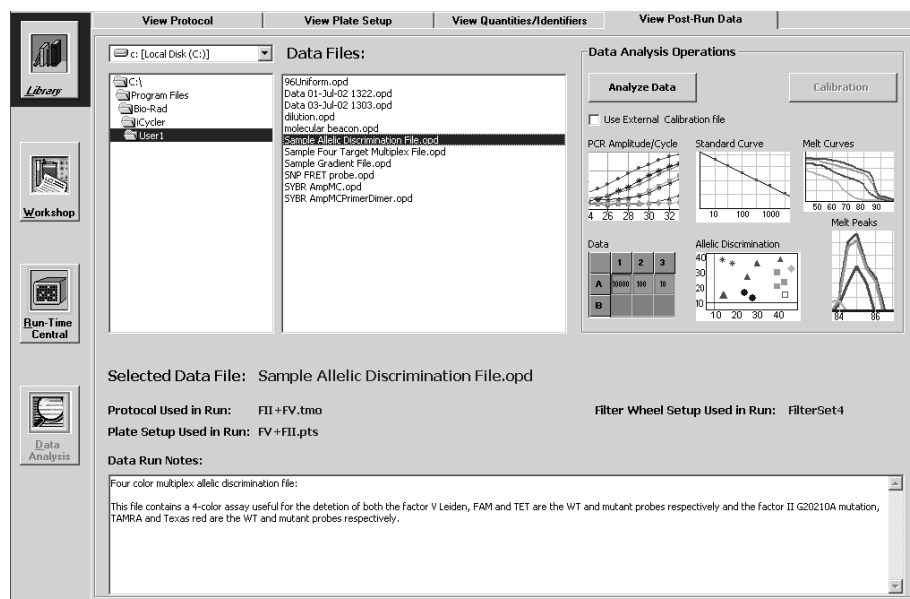

Fig. 4.5. Library / View Post-Run Data Window.
- **View Post-Run Data:** Allows navigation of stored data files. Displays any notes entered by user. Permits opening of stored data files (see Figure 4.5).